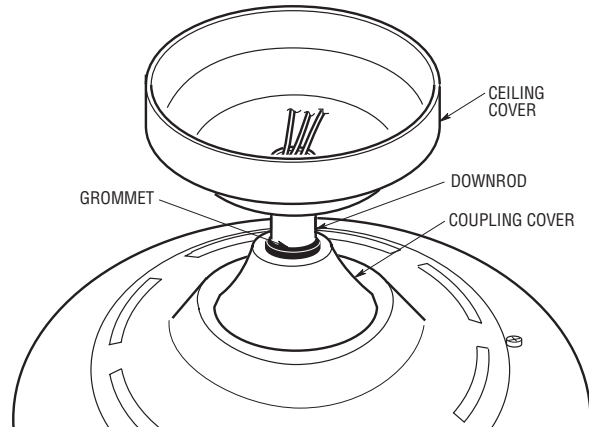

Figure 3
4. Make sure the grommet is properly installed in the coupling cover, then slide the coupling cover on the downrod until it rests on the motor housing. Place the ceiling cover over the downrod. Be sure that the ceiling cover and the coupling cover are both oriented correctly (Figure 3).